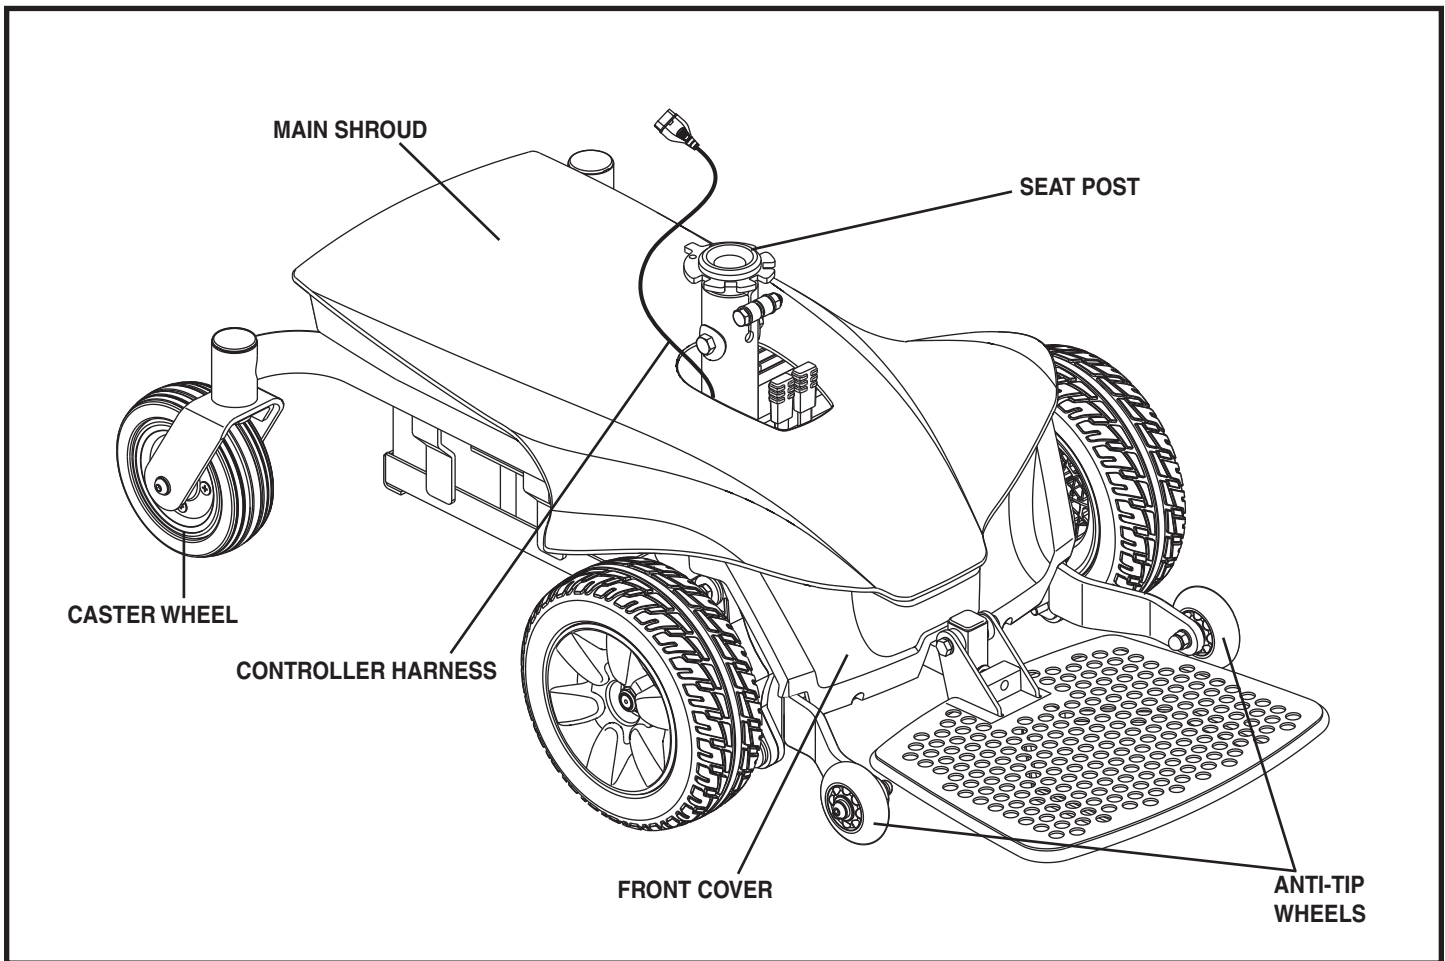

Figure 2. The Jazzy Select Elite Power Base
5. Plug the controller harness into the connector on the power base. **See figure 2.**